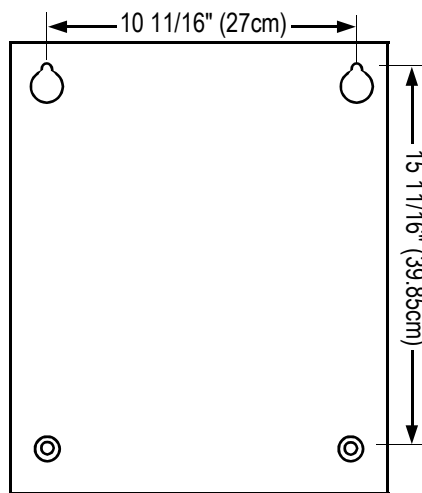

Figure 6 - Expansion Unit Cabinet Mounting Hole Dimensions
2. Mark the four mounting holes against the mounting surface using the Expansion Unit cabinet as a template, or using the measurements provided in Figure 6.